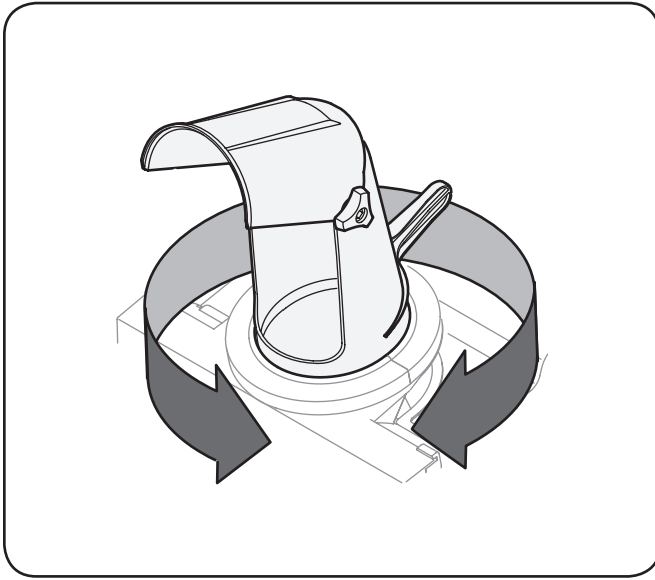

Figure 5-3
2. Position the chute assembly opening by using the chute handle to throw the snow in the desired direction. See Figure 5-3.